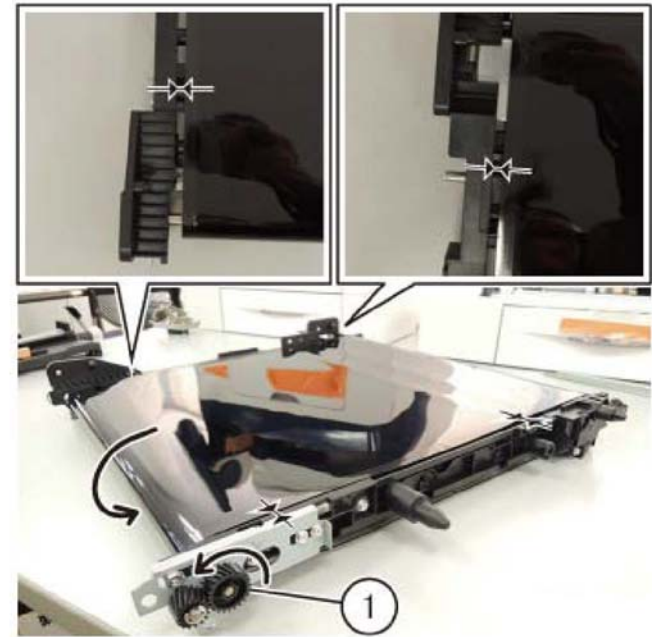

Figure 16 Tension plates with IBT belt unit
5. Before returning the front/rear tension plate to the original state, turn the IBT belt to make the IBT belt even, Figure 16.